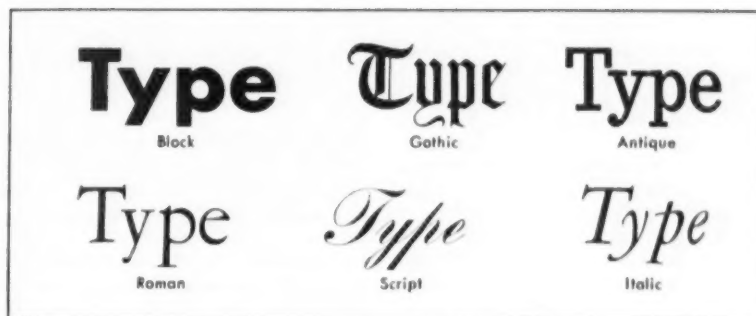

Figure 44
To begin, all type faces fall into one or another of five broad divisions: (1) gothic, also called text, blackletter, or, most commonly, Old English; (2) roman; (3) italic; (4) script; and (5) block, generally and yet incorrectly called "gothic." The roman form, in turn, is subdivided into (1) old style, (2) antique, and (3) modern. All forms except the last mentioned, modern roman, are illustrated in the panel at the top of the preceding page, designated Figure 44.